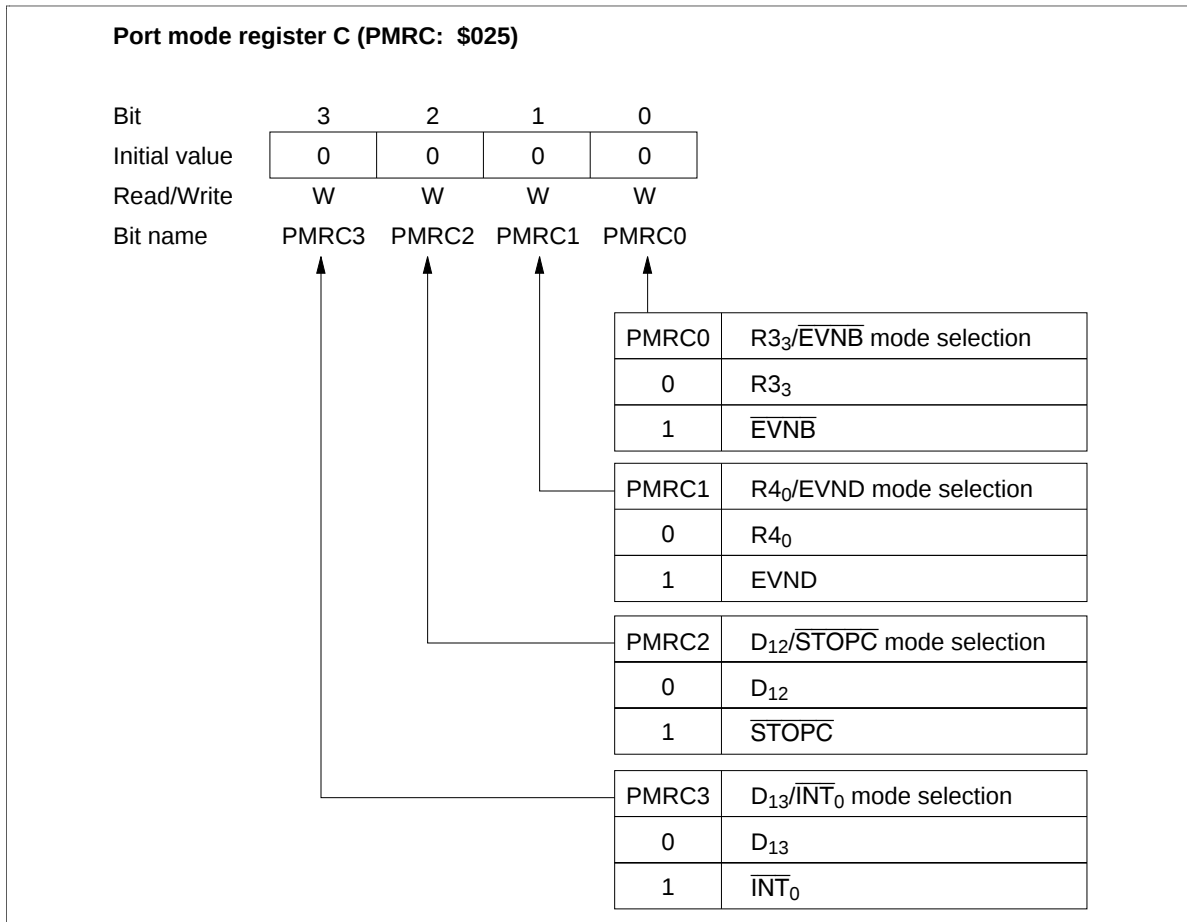

Figure 50 Port Mode Register C (PMRC)
- Port mode register C (PMRC: \$025): Write-only register that selects R3₃/EVNB pin function as shown in figure 50. It is reset to \$0 by MCU reset.